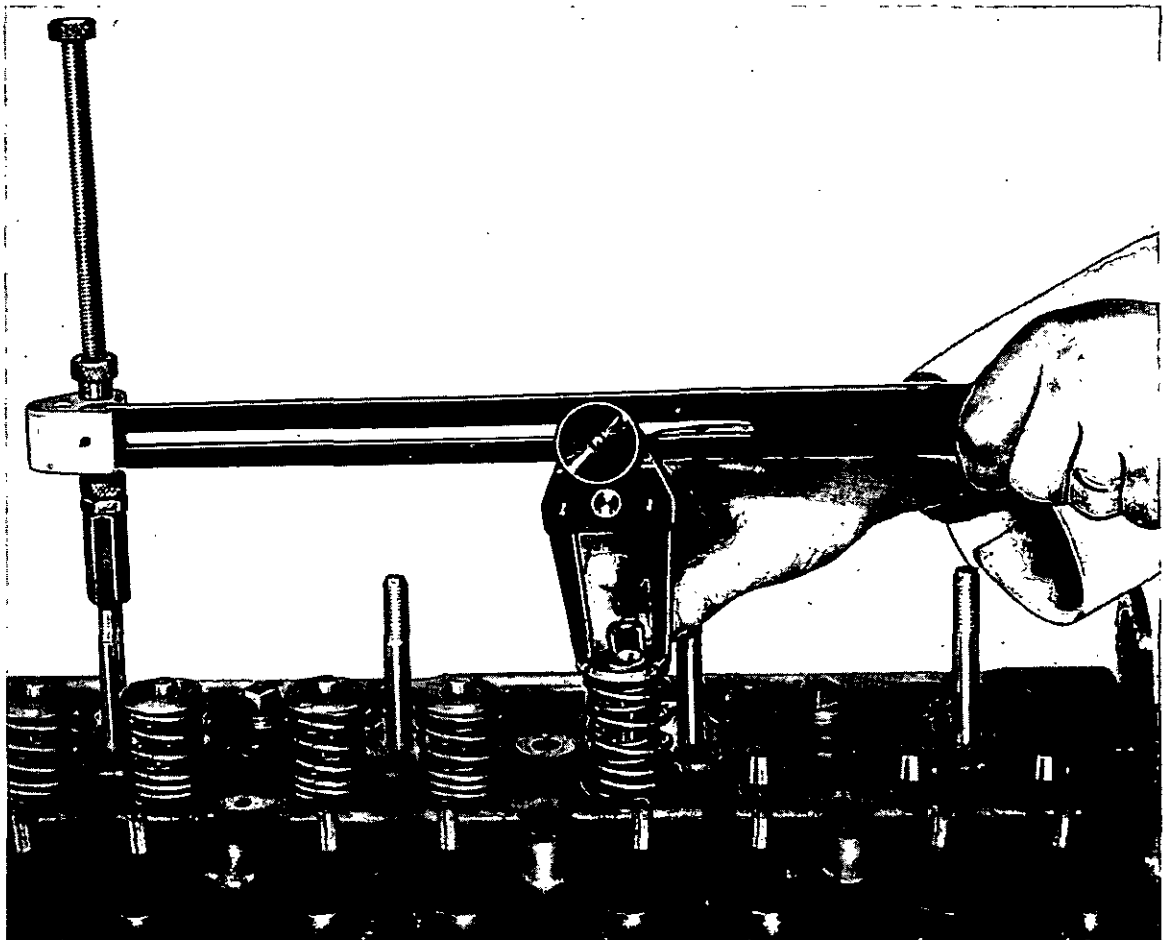

Fig. E.4. Removing Valve Assembly.
1. Compress spring caps and springs (Fig. E.4) and remove the two half conical collets.